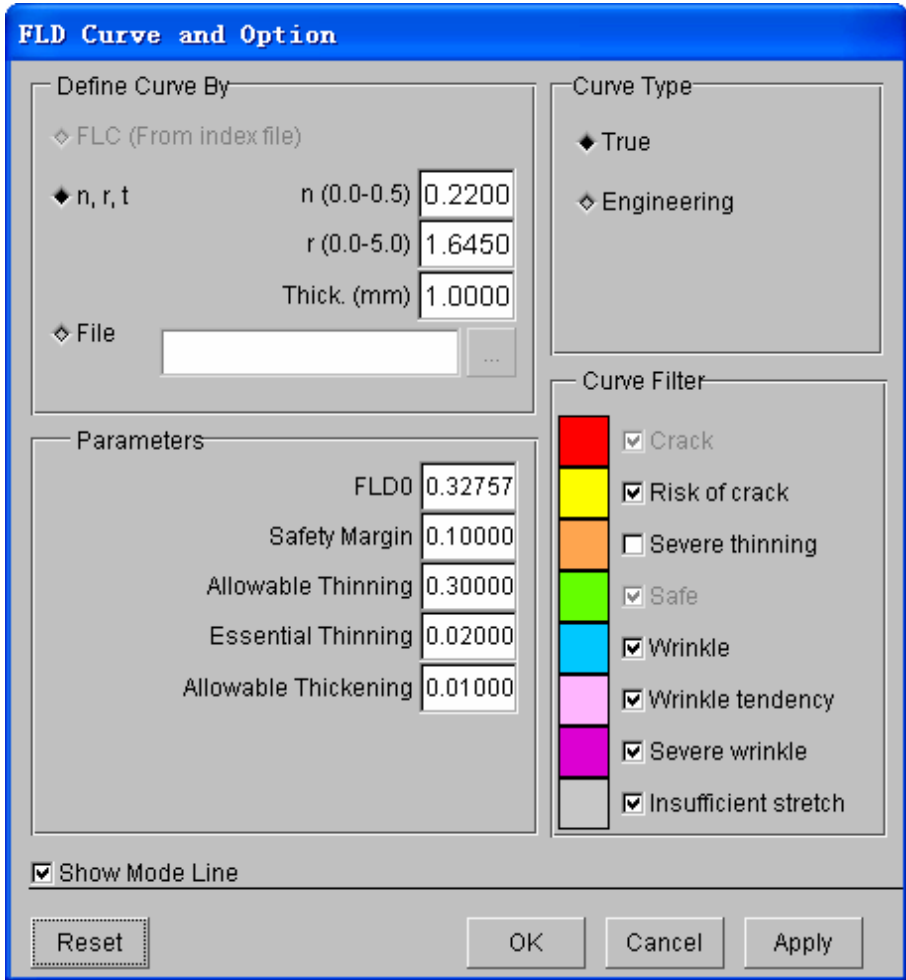

Figure 1.54 FLD Curve and Option dialog box
3. Set FLD parameters (n, t, r, etc.) by clicking on the **FLD Curve Option** button to display the FLD CURVE AND OPTION dialog box illustrated in Figure 1.54.